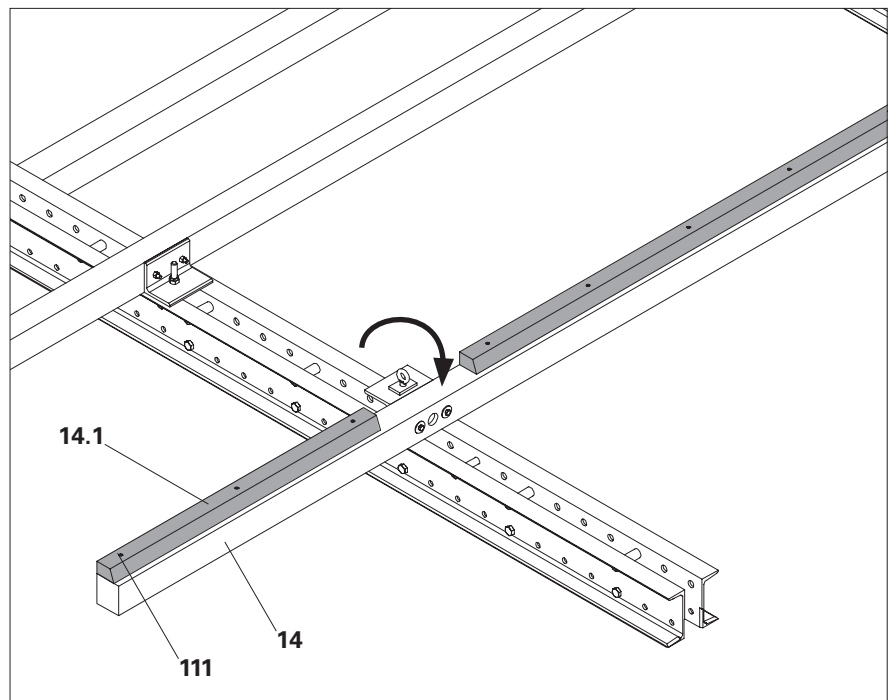

Fig. C2.05
3. Screw the support (**14.1**) with screws 6 x 120 (**111**) at a distance of approx. 60 cm to the enclosure beam (**14**). (Fig. C2.05)